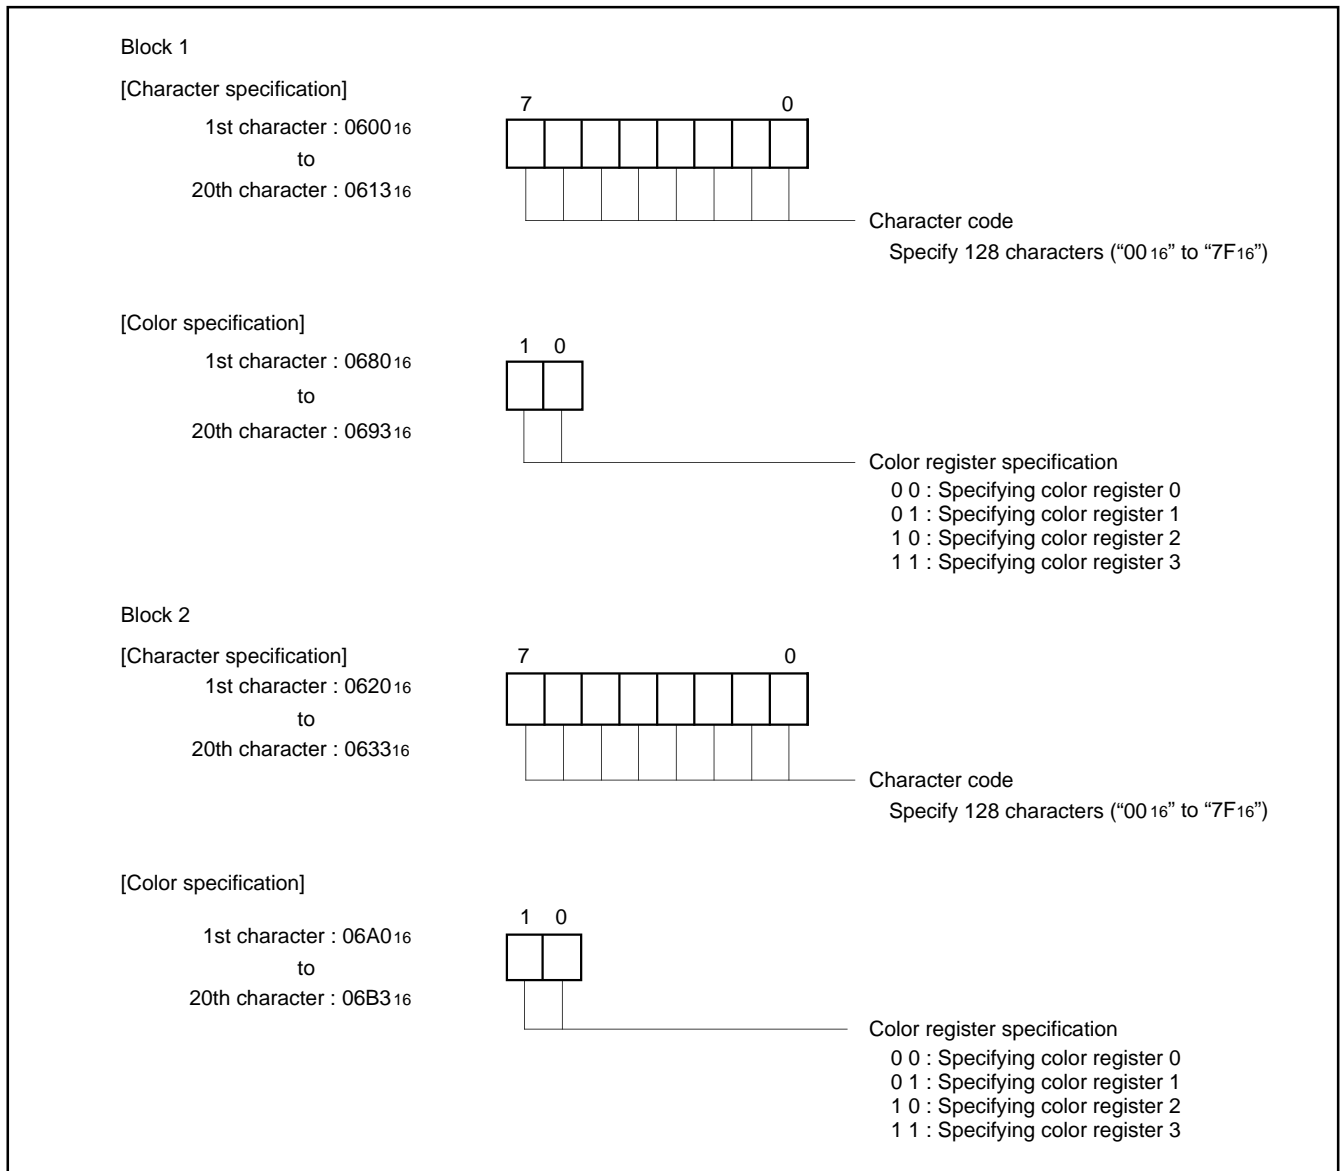

Fig. 43. Structure of CRT Display RAM
For example, to display 1 character position (the left edge) in block 1, write the character code in address 0600₁₆ and write the color register No. to the low-order 2 bits (bits 0 and 1) in address 0680₁₆. The color register No. to be written here is one of the 4 color registers in which the color to be displayed is set in advance. For details on color registers, refer to (5) Color Registers. The structure of the CRT display RAM is shown in Figure 43.